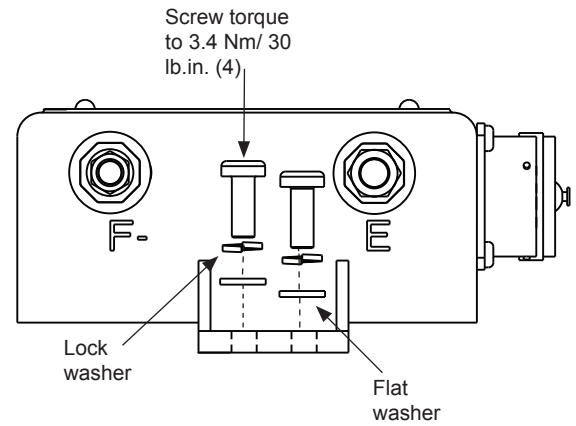

Figure 3: Alternator Installation
1. Align regulator tabs with screw holes on alternator shell and secure with mounting screws. Torque screws to 3.4 Nm/30 lb. in. See Figure 3.